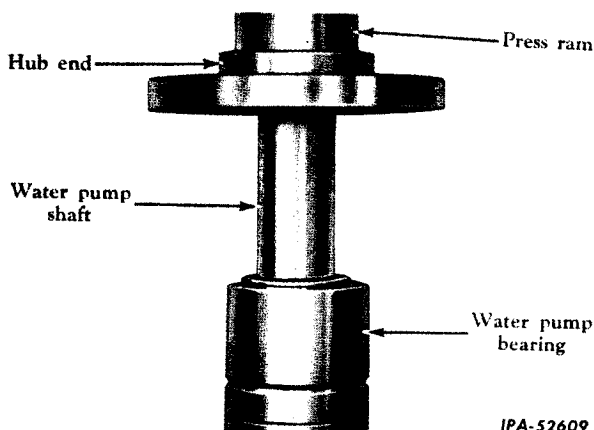

Fig. 9 - Installing the Hub.
1. Press the hub on the shaft, with the small diameter of the hub facing out (Fig. 9).